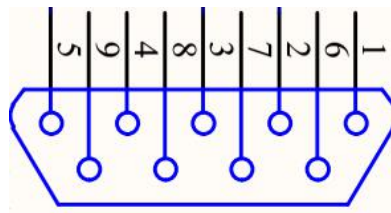

Figure 8 RS232 Connector DB9
2) To connect the power supply cable to the 48 V DC power supply, and make sure that the DC power supply can provide enough output power. Please note the polarity of the cable. Power supply cable “+” is DC positive and “-” is DC negative and GND is ground wire. Below figure8 is shown the power supply cable.
Pins definition is shown in below Figure8 & Table 7: